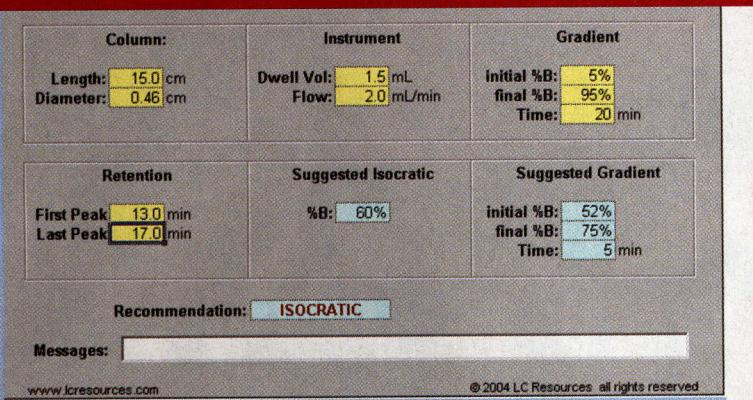

Figure 2: Gradient Scouting Run Evaluation (2) results for the scouting gradient of Figure 1a.
(2). I've filled in the blanks for the present example in Figure 2. The column dimensions (in centimeters, not millimeters), flow rate, gradient range, gradient time, and retention times of the first and last peaks are obvious. The dwell volume, sometimes called the gradient delay or mixing volume, is a characteristic of each LC system and should be measured at some point for best results.